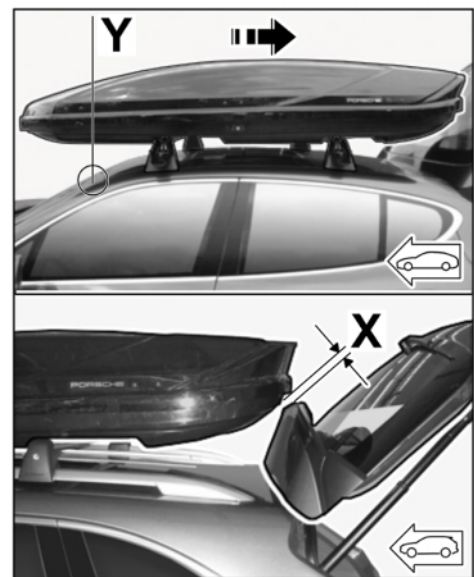

Figure 8
4.8.3 Carefully open the rear lid/tailgate of the vehicle and adjust gap "X" with respect to the roof box 520 (⇒ *Figure 8*).